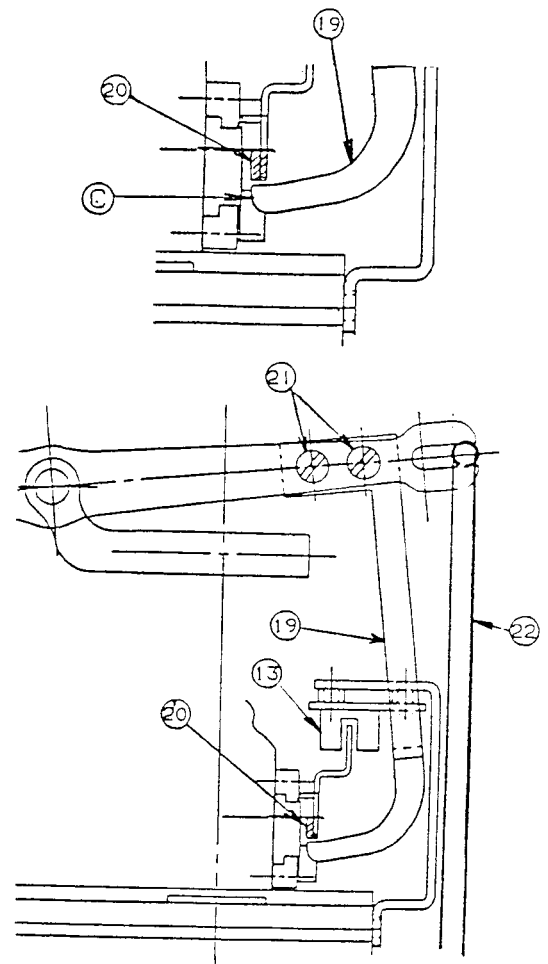

Fig.6
5. To adjust the spreader releaser lever. (Fig.6)